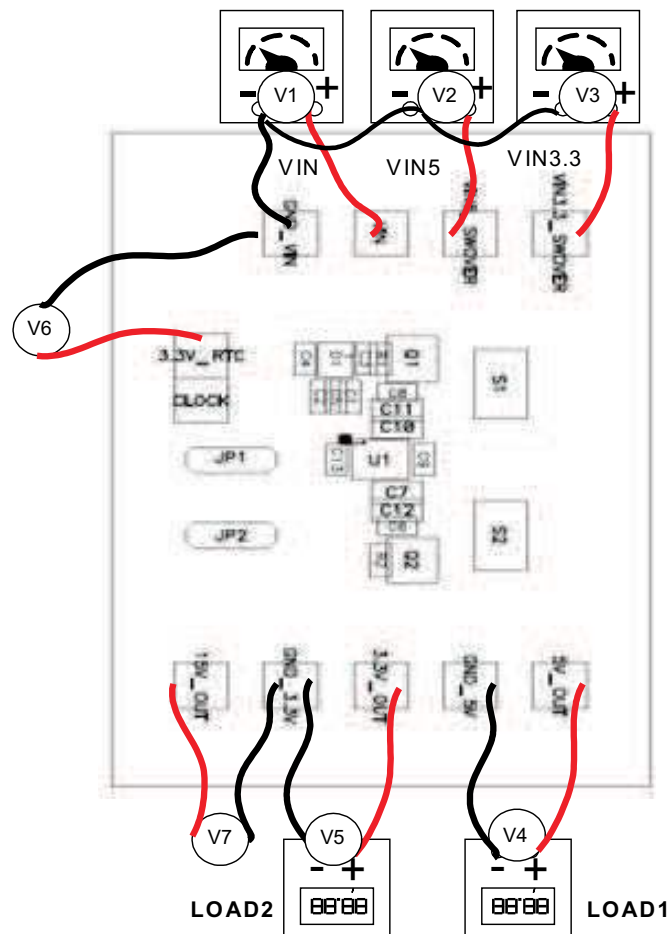

Figure 2. TPS51103EVM Recommended Test Setup
The input voltage source, V_{IN} , should be a variable dc source, capable of 1-A dc, between 0 V and 30 V. Connect V_{IN} as shown in Figure 2.
Figure 2 shows the recommended test setup to evaluate the TPS51103EVM.
Before connecting the dc input sources, make sure that all sources are initially set to 0 V and connected as shown in Figure 2.
- Step 2. Connect voltmeters V4-V7 as shown in Figure 2.